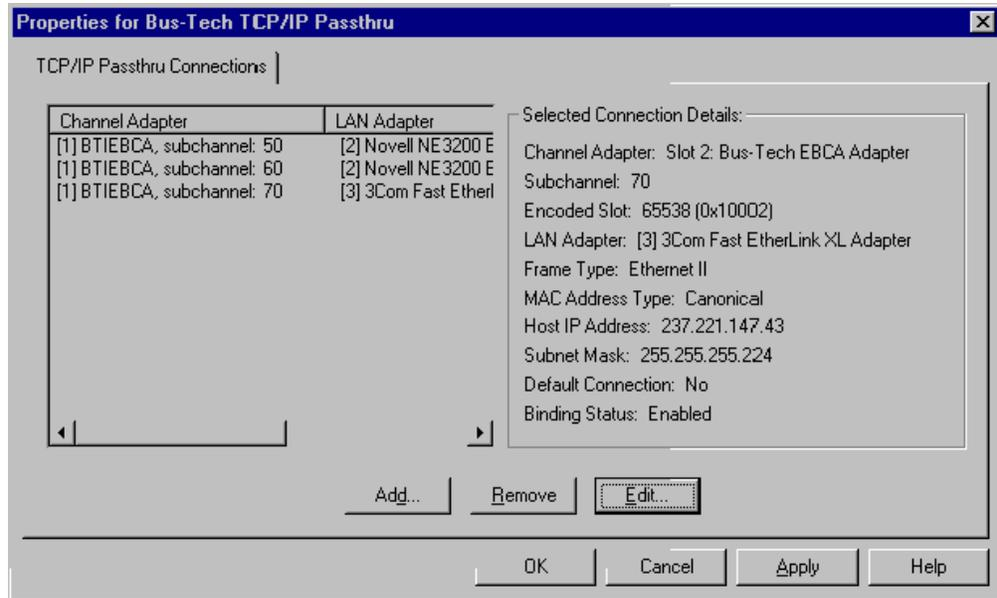

Figure 15-16. TCP/IP Subchannel Configuration
2. Click on **Properties**. Verify the subchannel addresses match the ESCON and mainframe configurations (Figure 15-16). Remember that each TCP/IP connection requires two subchannel addresses. If your TCP/IP Passthrough configuration has subchannel 50 defined, your ESCON and mainframe configurations must have both subchannel 50 and 51 defined.